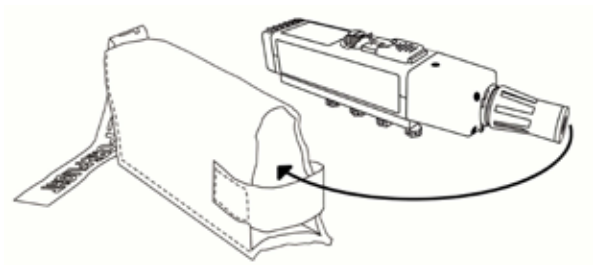

Figure 2-3. Packing the Case
2.5.1 General. Figure 2-3 depicts the proper place for each component of the GCP-2C kit in the carrying case.